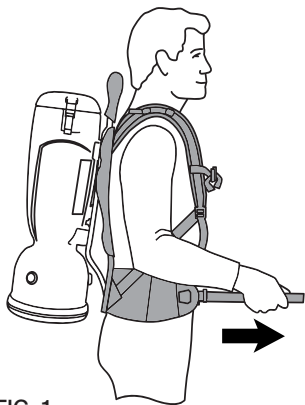

FIG. 1
1. Remove vacuum hose from top of unit. (Fig. 1)
3. Place the hip belt over your hip and connect the buckle. Your hip bones should be centered between the top and bottom of the belt. Pull the straps forward to tighten the hip belt. (Fig. 1)